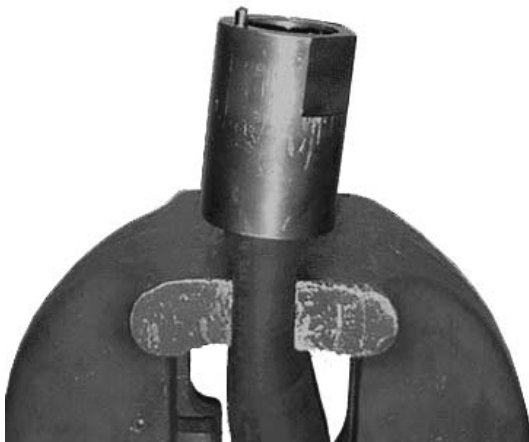

Figure 8-16. Valve Nut and Whip Hose in Vise
- a. Clamp the hose in a vise with the attached Hose Socket or Valve Nut standing vertically above the jaws. Refer to Figure 8-16.